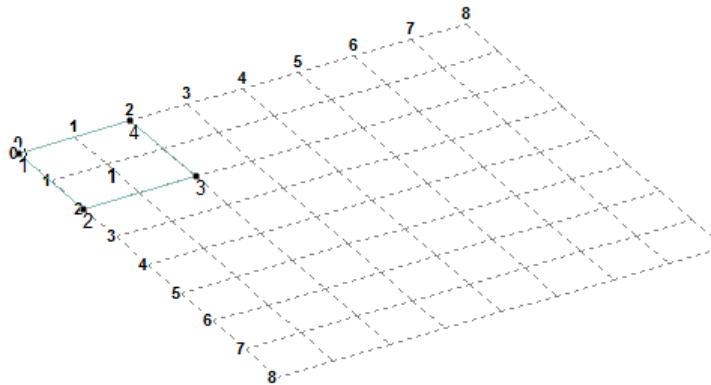

Figure 2-33 Plate 1 created
Step 7: Again, move the cursor in the negative Z direction and click at the coordinates (2,0,0); node 4 and plate 1 is created, as shown in Figure 2-33. Press the ESC key to exit the tool selection. Press SHIFT+N and SHIFT+P to view the nodes and plates respectively.